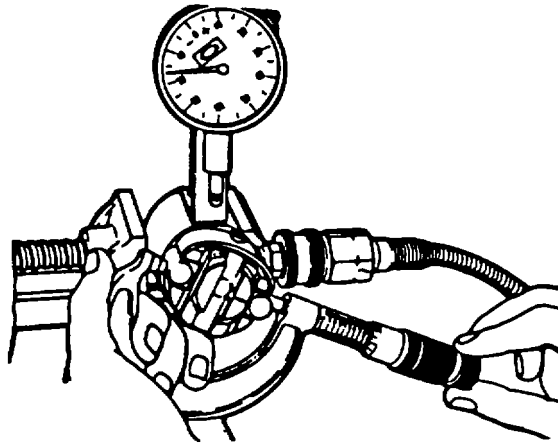

FIGURE 3-91. Measuring Roller-To-Roller Dimension
- q. Using a micrometer, measure roller-to-roller dimension (distance between outer surfaces of opposed cam rollers). Dimension should be 1.972 ± 0.0015 inch (50.08 ± 0.038 mm), refer to FIGURE 3-91.